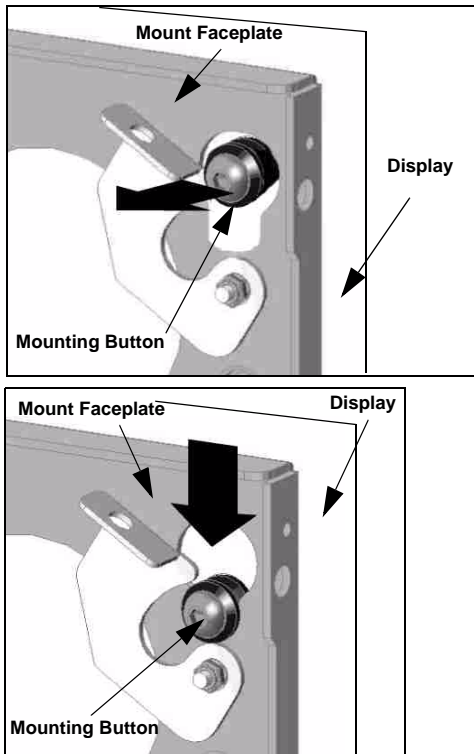

Figure 11: Align Display
2. With one person supporting each side of the display, align the four mounting buttons with the four teardrop slots in mount faceplate. (see figure 11)